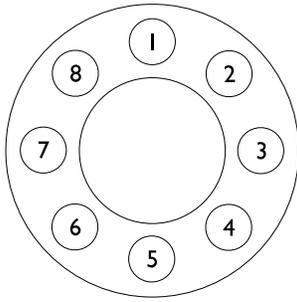

Figure 16
2. Move in a circular pattern to the next set screw (see Figure 16) and repeat step 1.